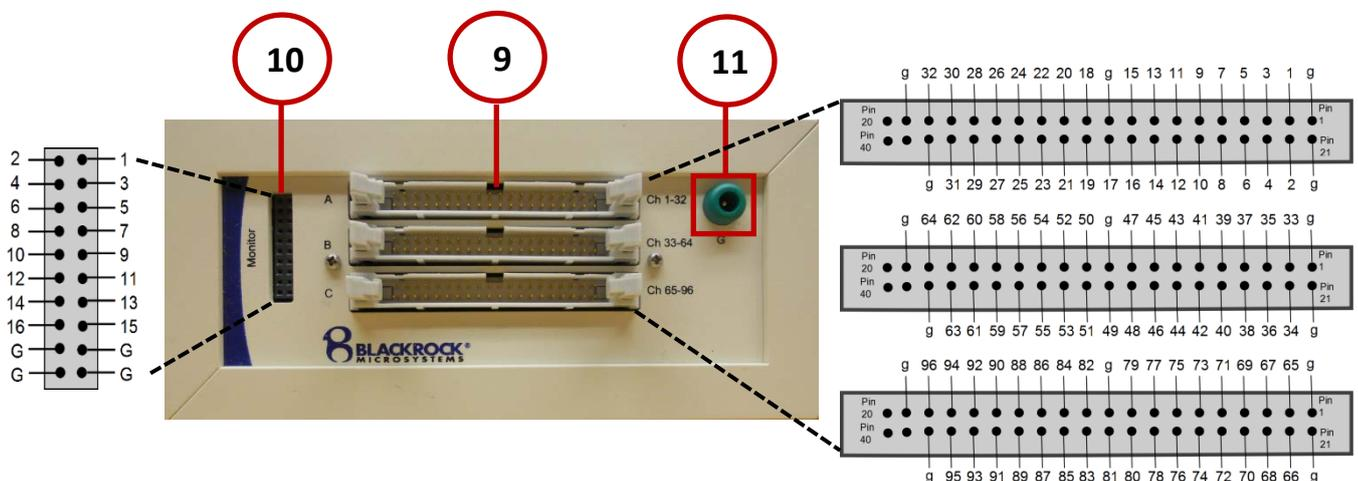

Figure 2-3: CereStim M96 Back Panel
**CereStim M96 Cable Connectors (9):** Connectors A-C provide a connection between the CereStim M96 and the Electrodes. Connector A corresponds with output channels 1-32, connector B with channels 33-64 and connector C with channels 65-96. The layout of the CereStim M96 Cable Connector is shown in Figure 2-3 above. Electrode connection cables are supplied for standard ECoG electrode types.
**Monitor (10):** Connection to the monitor allows users to observe the operation of the CereStim M96 Current Modules using an oscilloscope or other monitoring device. The pinout for this connector is shown in Figure 2-3 above. Numbers 1-16 refer to the monitor line of the corresponding current module (i.e. number 1 corresponds to module 1).
**Patient Ground (11):** The patient ground should be connected to the Patient Ground connector. The CereStim M96 System provides a minimum isolation of 2.5 kV between the patient and the mains power supply.